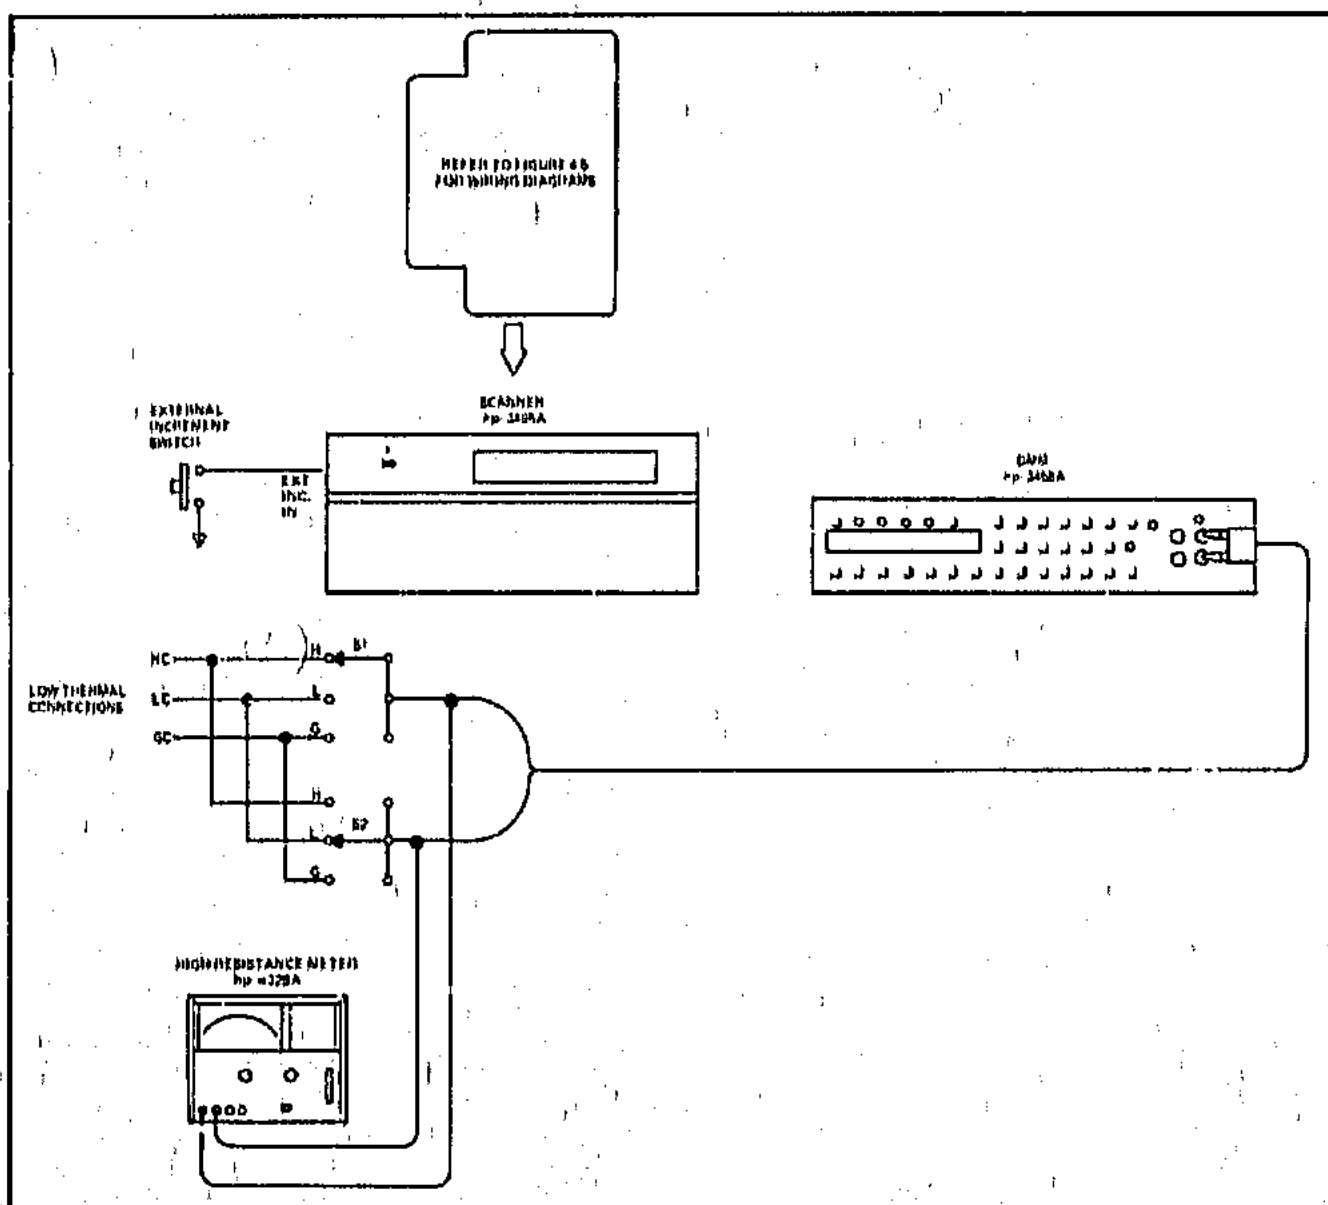

Figure 4-6. Channel Isolation Test Setup.
as determined by the Select Switches S1 and S2 in Figure 4-6.
a. Connect the test setup as shown in Figure 4-6. Use the proper value for R_g as shown in Table 4-2.